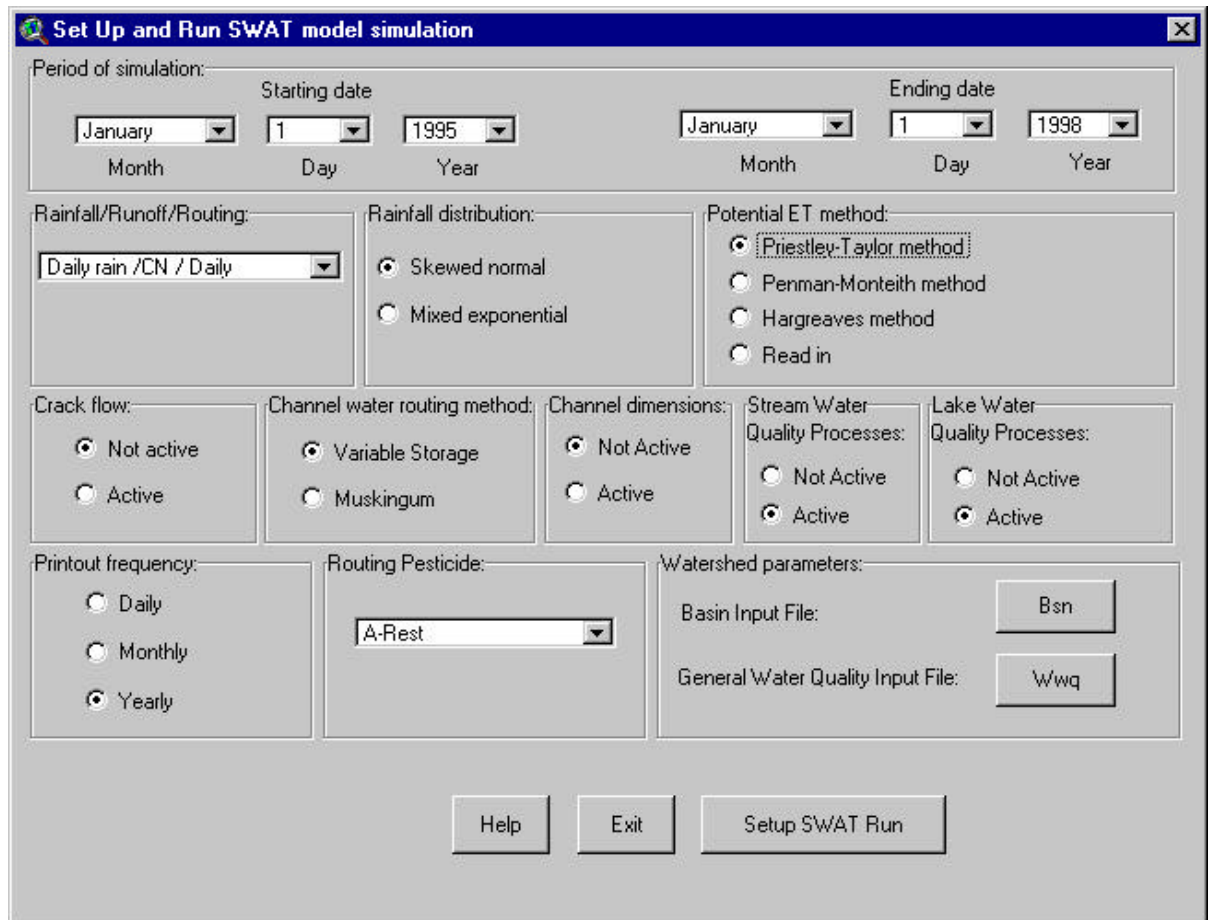

Figure 13.3
2. The Set Up and Run SWAT model simulation dialog box is displayed. (Figure 13.3).